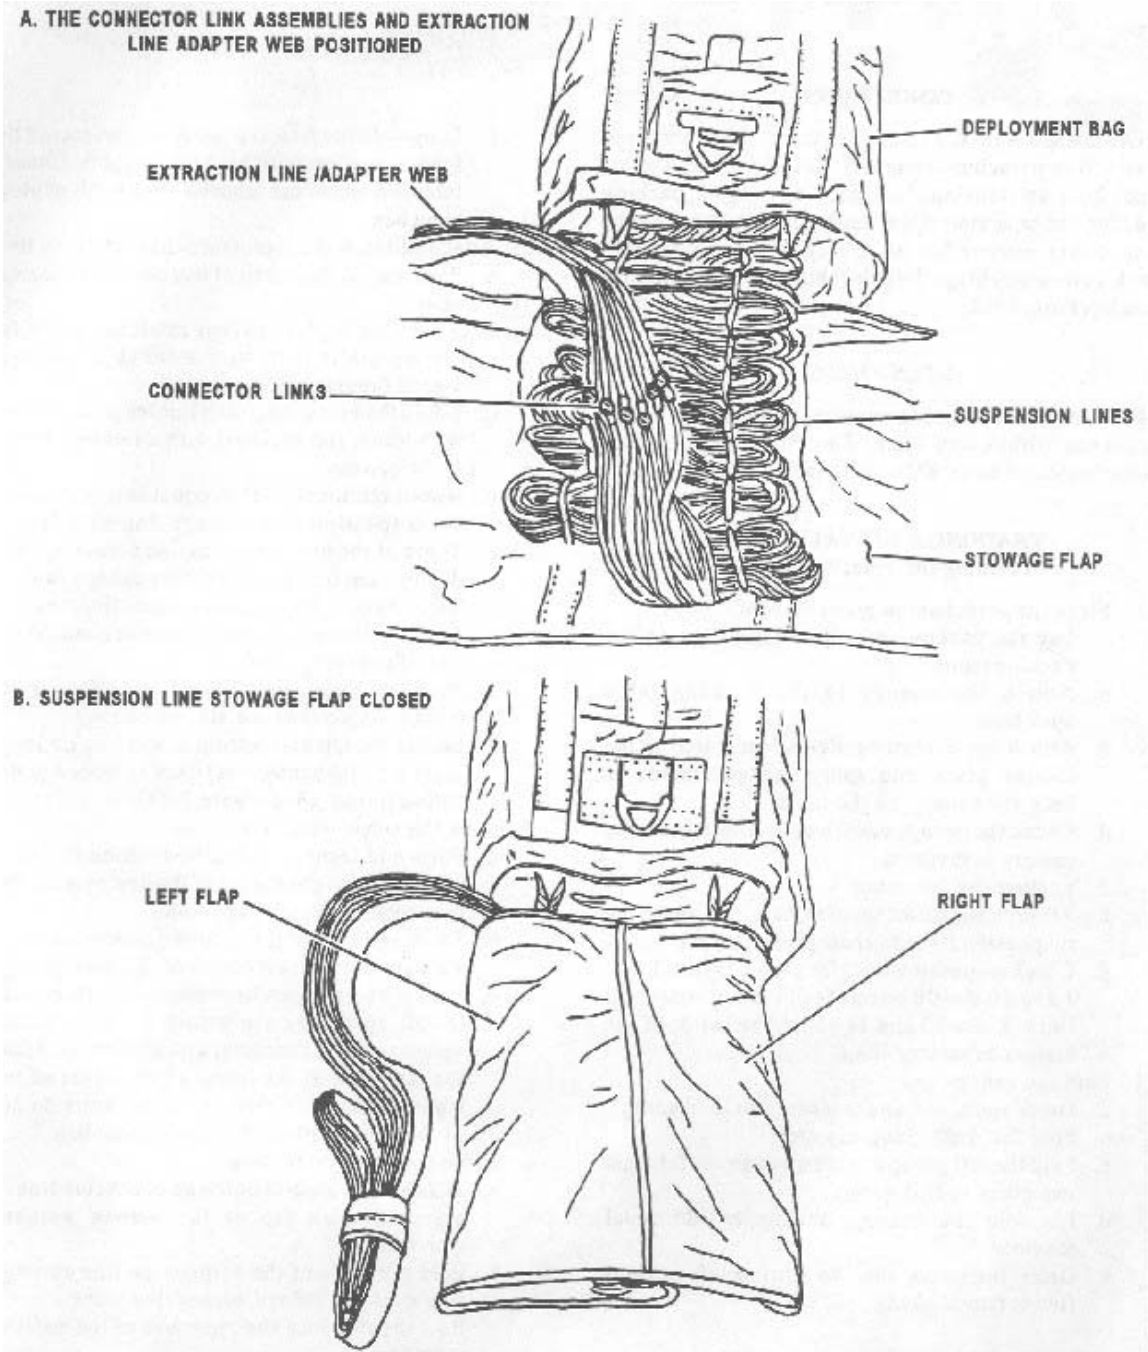

Figure 3-37
- c. Stow the suspension lines alternately from right to left until all lines have been stowed to within 6 inches of the suspension line connector link assemblies. Make the last stow at the lower right side of the stowage flap. Make sure the stows do not exceed the width of the deployment bag. (See Figure 3-37)
- a. Position the suspension line connector link assemblies on top of the stowed suspension lines. (See Figure 3-37)
- b. Fold the sides of the suspension line stowage flap over the stowed suspension lines. (See Figure 3-37)